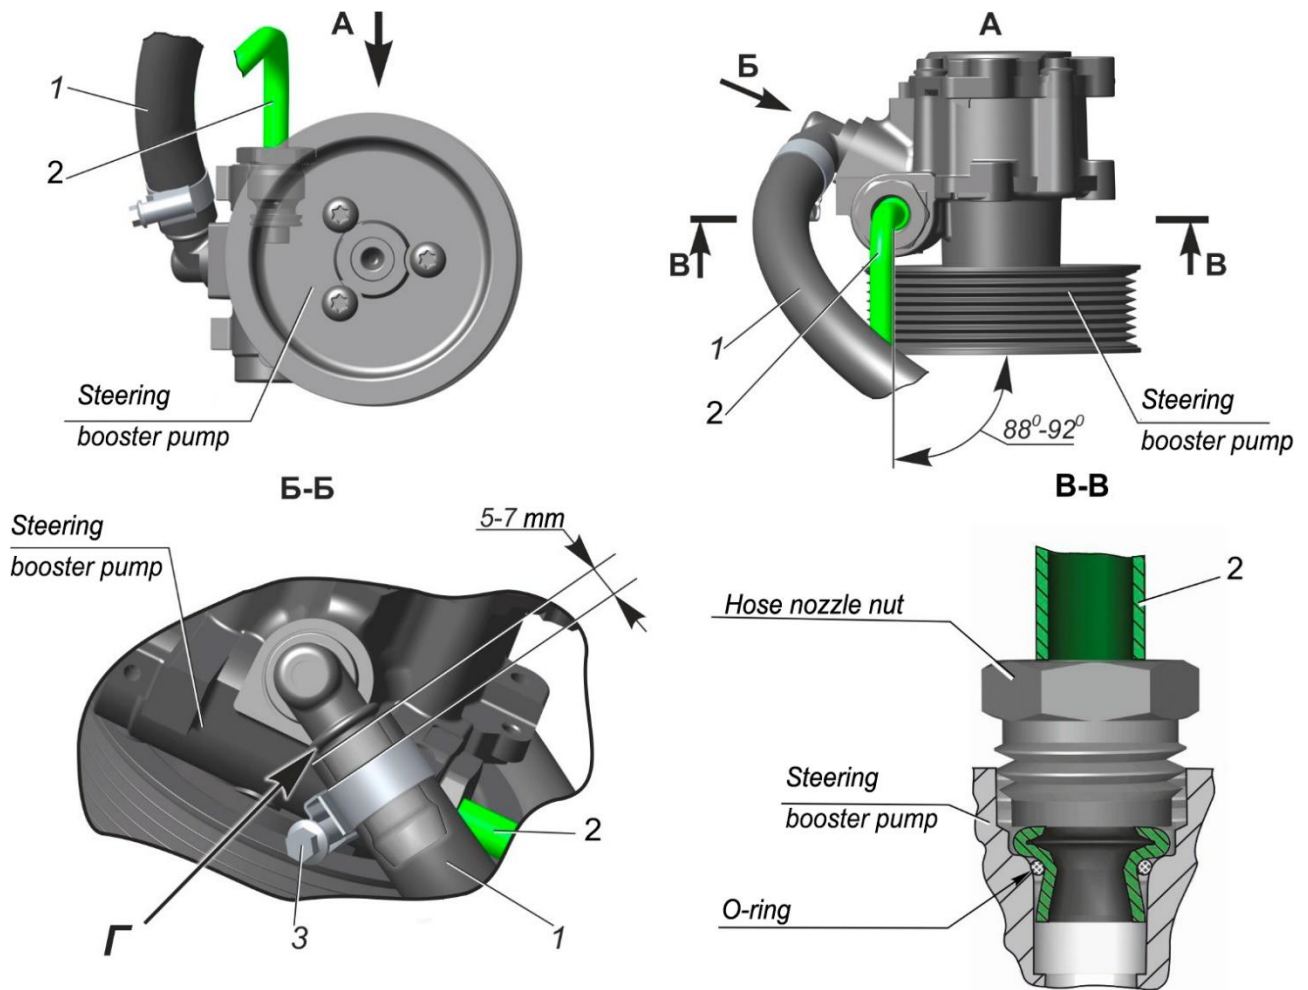

Fig. 5.11. Installation of pump hoses: 1 – suction hose; 2 – discharge hose; 3 – clamp
- connect the suction 1 (Fig. 5.11) and discharge 2 hoses to the pump, and tighten the fasteners. Install the suction hose until it stops at the pump branch pipe end D, install the fastening clamp at a distance of 5-7 mm from the hose end. Tighten the nut of the discharge hose nozzle to a torque of 35-42 N·m (3.6-4.2 kgf·m);